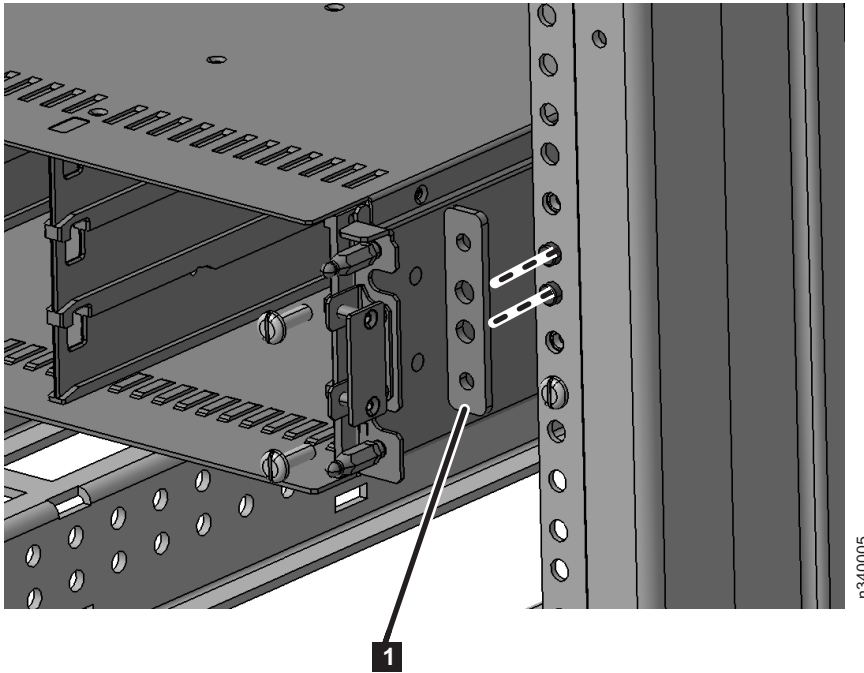

Figure 5. Mounting the N3220 filer in the rack
2. From the front of the rack, set the N3220 filer onto the rails and slide it into the rack until the front mounting flange is a few inches from the rack frame. As shown in Figure 5 on page 4, position the spacer plates **1** over the locating pins (holes H3 and H4) on the front left and right rails. Slowly slide the chassis into the rack until the front mounting flange of the N3220 filer is flush against the spacer plates.
3. Using Figure 5 for reference, attach the N3220 filer to the front of the rack using four silver pan head screws (two for each rail) in the H2 and H5 holes. Thread the screws through the front flange, the spacer plate, and the rack frame rail into the threaded rail nuts. Tighten the screws using a screwdriver.